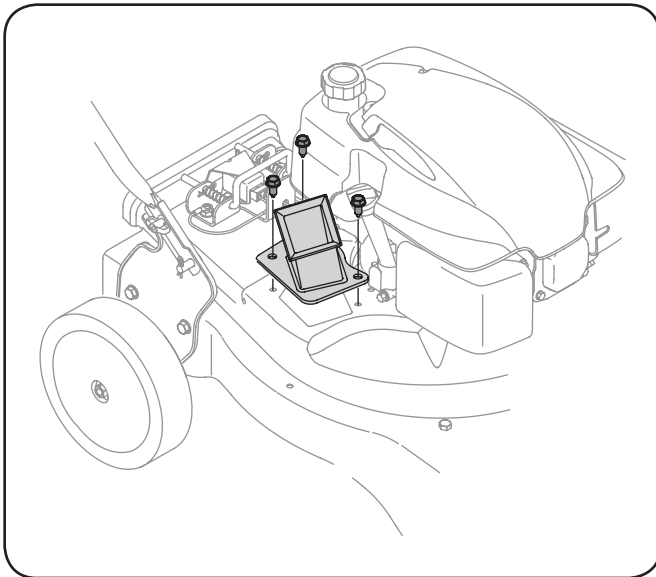

Figure 7-1
3. Remove the three hex cap screws holding the hose hanger bracket and chipper chute to the upper housing. See Fig. 7-1.